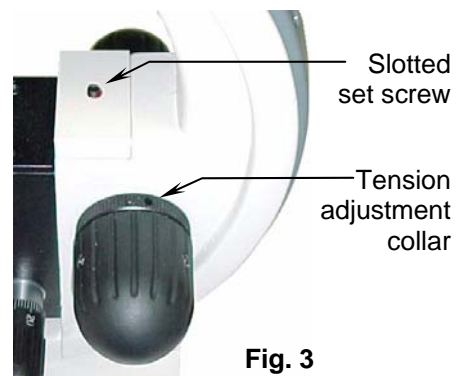

Fig. 3
The collar to adjust coarse focus tension (Fig.3) is situated between the coarse focus knob (19) and the arm (16). Coarse focus tension is adjusted by the factory. The optimum point of tension is that which permits the lightest movement of the coarse focusing knob possible, without the stage sinking from its own weight.
- a. Loosen the rack stop screw (Fig. 3) with the 2mm key.
- b. For the 18 series: With the fine focus adjustment (20) at mid-range, focus on specimen slide, using only the coarse focus knob (19), firstly with the 4X objective, then with the 10X.
- d. Rotate the rack stop screw until tight enough to prevent the stage (8) rising further.